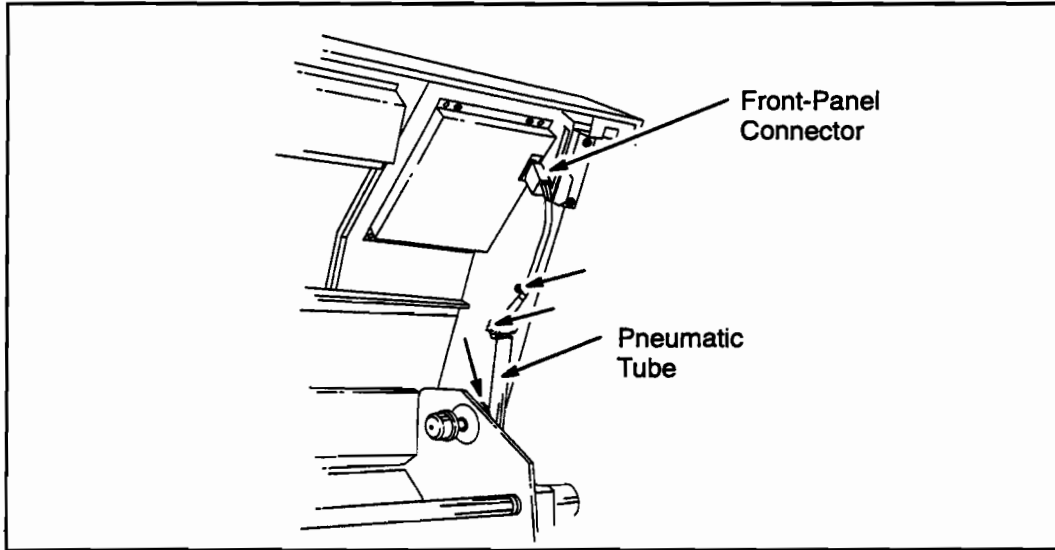

Figure 6-7. Top Cover Removal
1. Switch the plotter OFF (O) and disconnect the ac power cord and interface cable.
4. Remove the front panel cable connector (release two tabs) and cable clamp mounting screws from the top cover. See Figure 6-7.
8. Using needle-nose pliers, remove the retaining clip and washer that holds the top end of the pneumatic tubes to the top cover. See Figure 6-7.